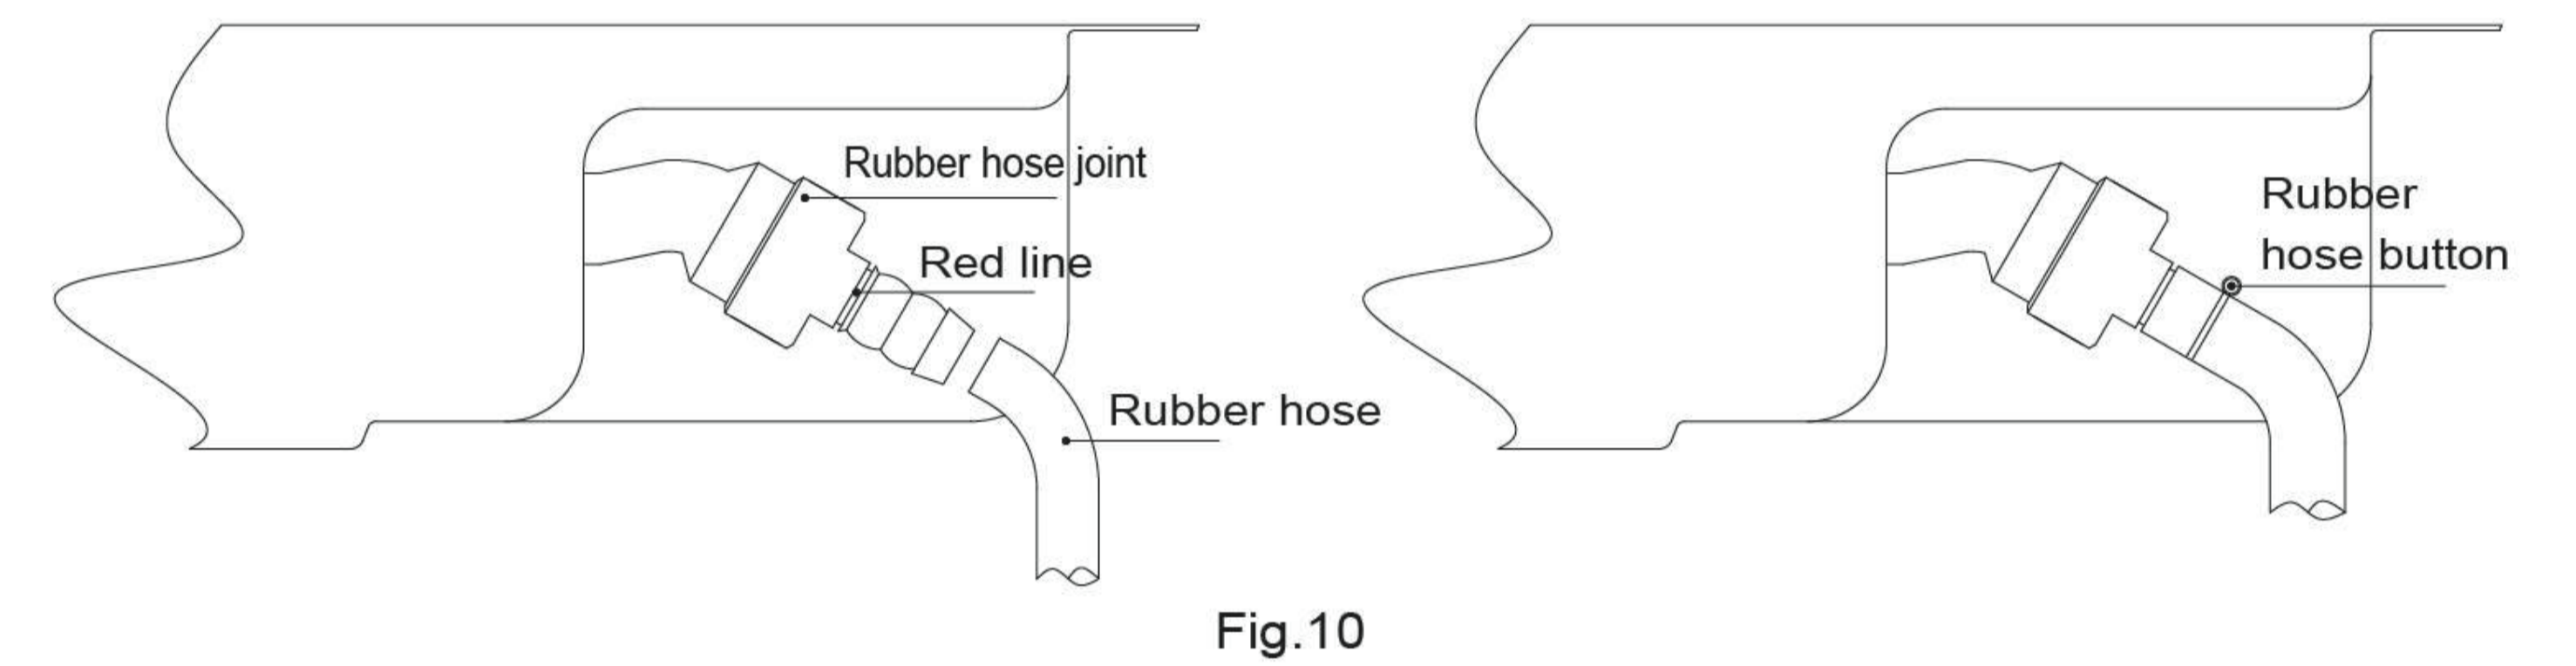

Fig.10
- Buckle the rubber hose button to the hose, then hitch the hose to stove's air intake joint, till the red mark, and tightly constrict the rubber hose button. (refer to Fig.10)
- Leak test: smear the joint part with tenuous and neutral cleanser(eg.soap subs), and open the general gas valve, if there is air bubble, please close the general gas valve soon, and repeat the action (1) and (2) until there is no air bubble.